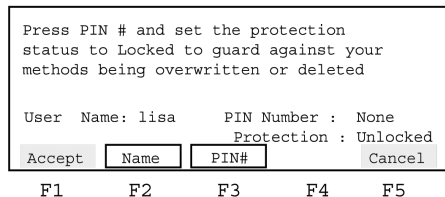

Figure 3-3. Security Code screen
2. Press **F1-Accept** to accept a name (you must enter at least one character). This displays the Security Code screen (Figure 3-3).
5. Press **Enter**. This displays the Security Code screen (Figure 3-3).